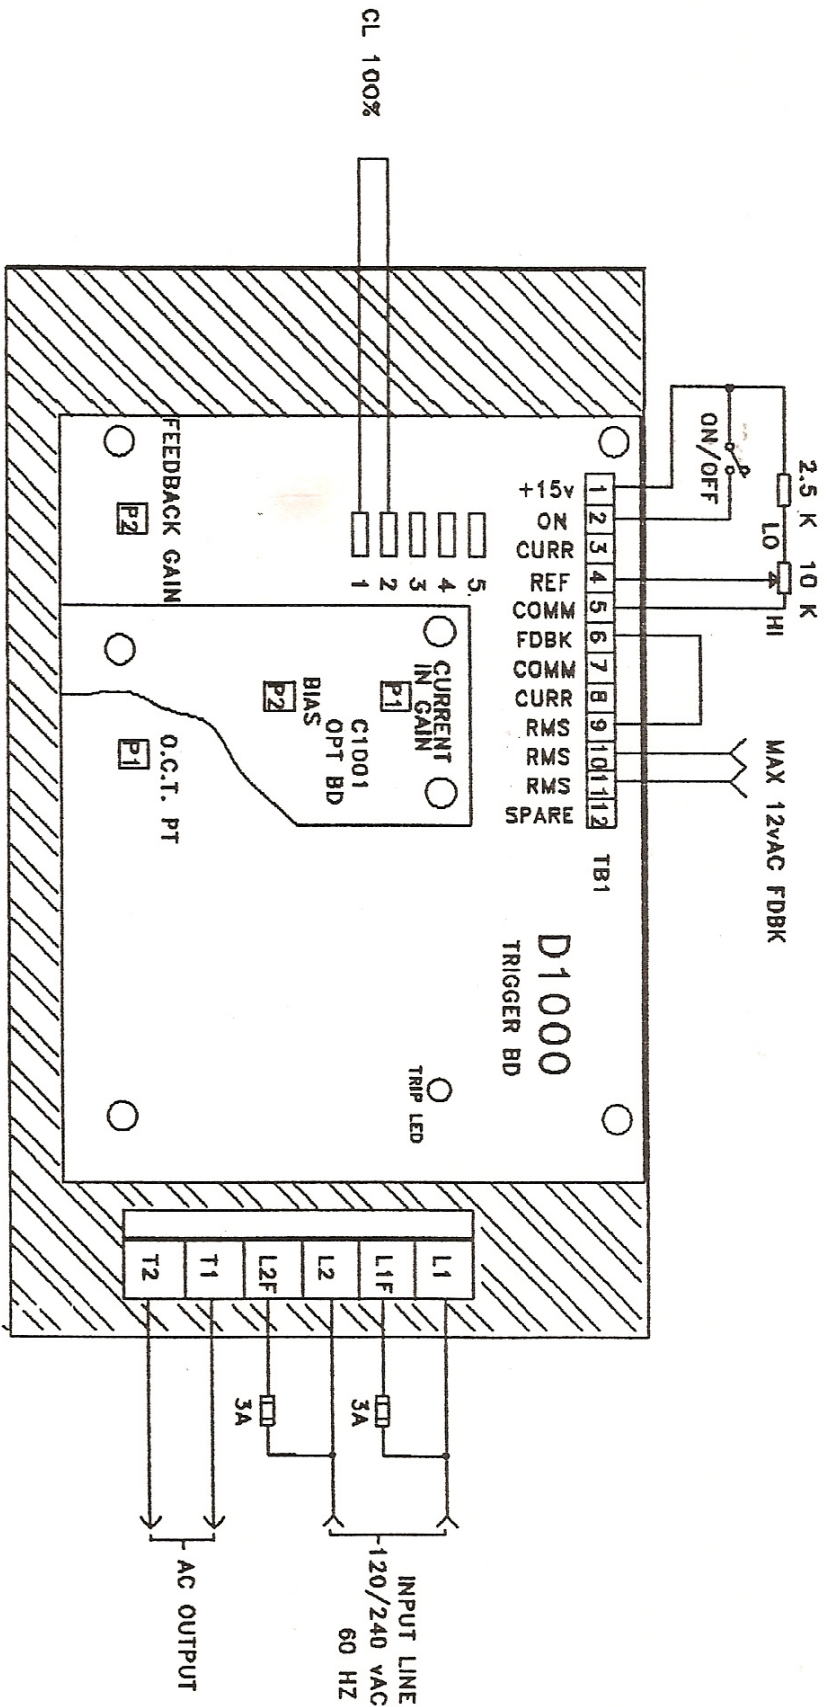

FIG. 5
C. **RMS FEEDBACK (Reference Figure 5)**
1. Connect a jumper from TB1 Terminal 9 to TB1 Terminal 6 to establish AC RMS feedback operation (see Figure 5);